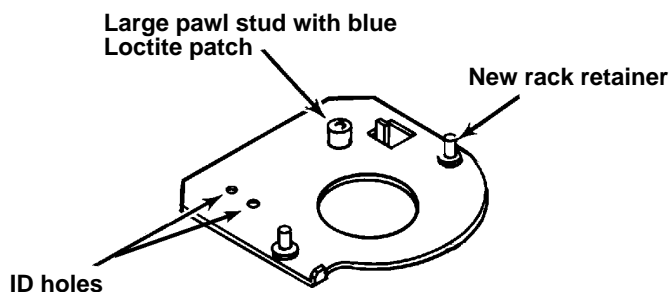

Figure 2
2. If the answer to number 1 is yes, then use new retainer rack and large pawl stud with blue paint dot. See Figure 2.